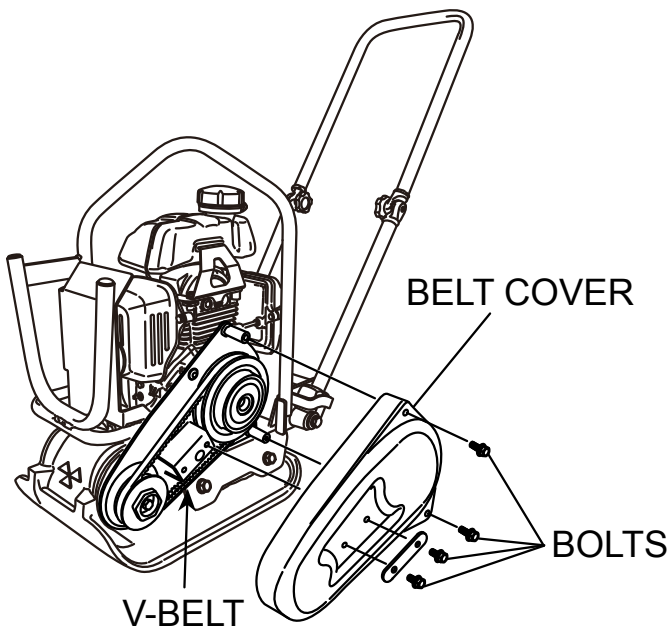

Figure 7. V-Belt Cover Removal
1. To check the V-belt tension, remove the four bolts that secure the belt cover to the frame as shown in Figure 7.